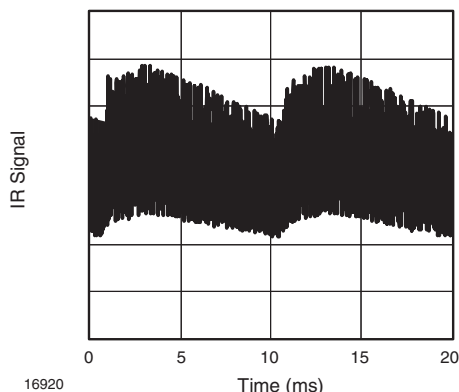

Fig. 13 - IR Disturbance from Fluorescent Lamp with Low Modulation
- Strongly or weakly modulated noise from fluorescent lamps with electronic ballasts (see figure 13 or figure 14)